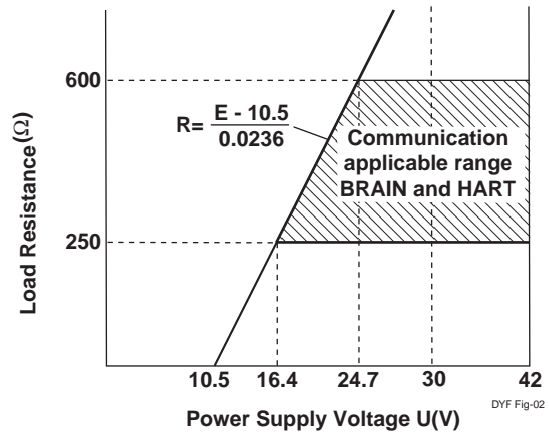

Figure 2. Relationship Between Power Supply and Load Resistance
(Refer to Figure 2 ; Relationship Between Power Supply Voltage and Load Resistance)
250 to 600 Ω (including cable resistance), refer to figure 2.
16.4 to 42 V DC for digital communications BRAIN and HART protocols (16.4 to 30 V DC for intrinsically safe type, refer to figure 2).